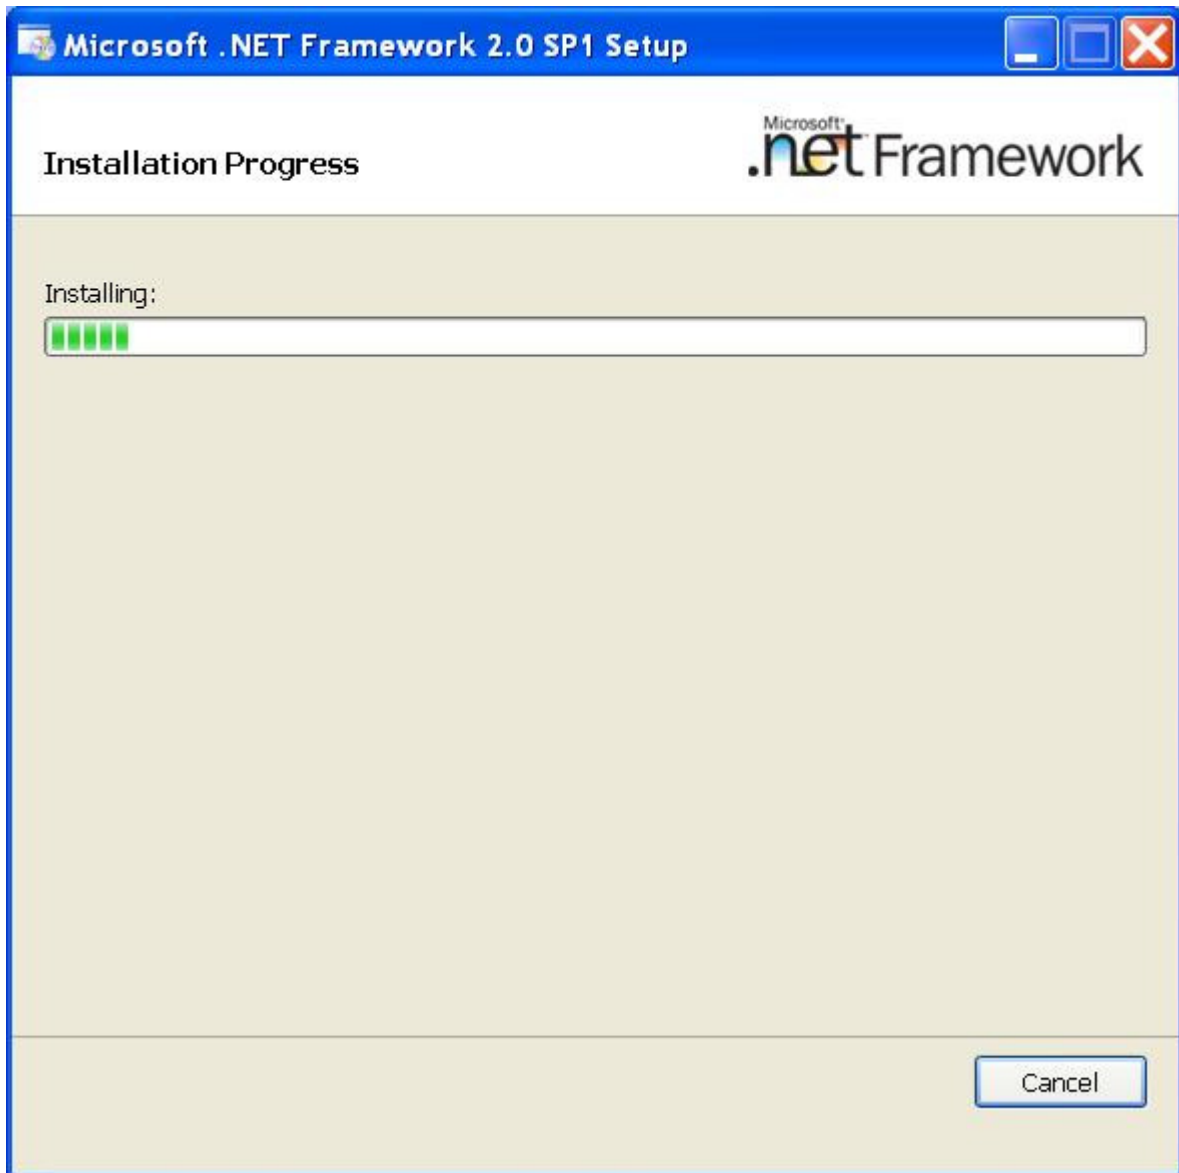

Figure 12
3. Wait the installation, as figure 12.